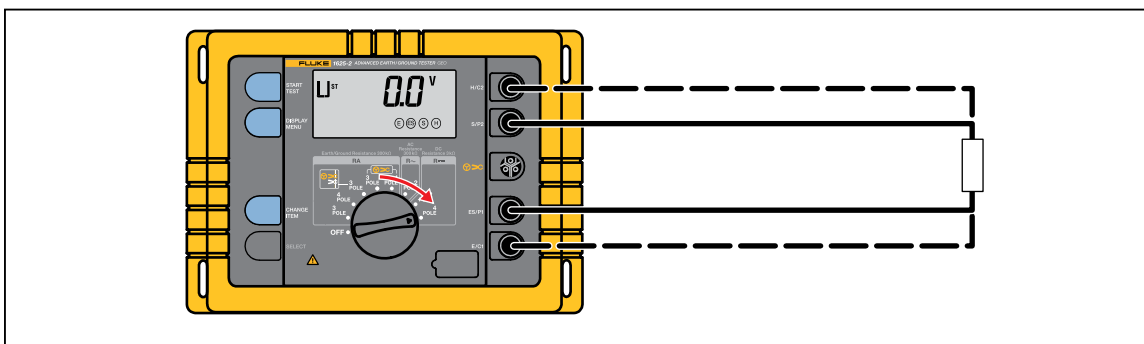

Figure 13. Resistance Measurement (R_{\square})
1. Connect instrument as shown in Figure 13.